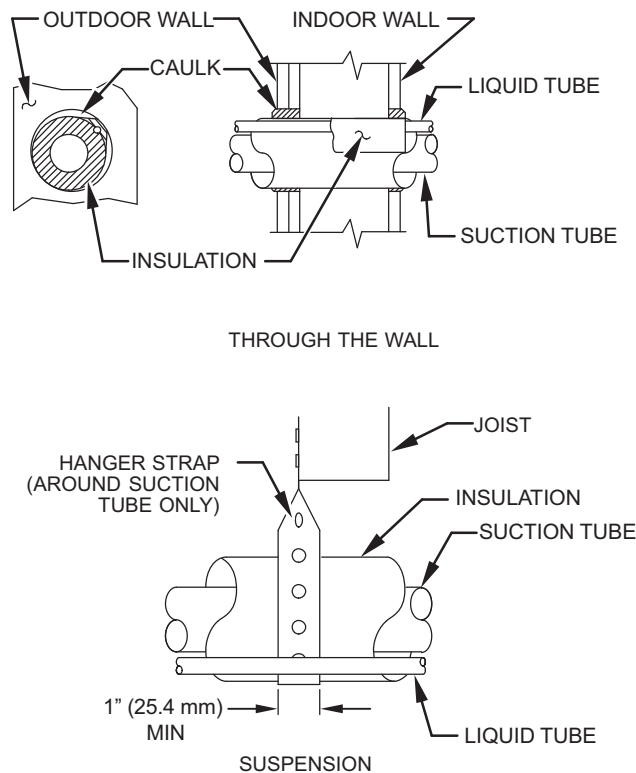

Fig. 1 – Connecting Tube Installation
5. When passing refrigerant tubes through the wall, seal opening with RTV or other pliable silicon-based caulk (Fig. 1).
7. Do not suspend refrigerant tubing from joists and studs with a rigid wire or strap which comes in direct contact with tubing (Fig. 1).
9. When necessary, use hanger straps which are 1 in. (25.4 mm) wide and conform to shape of tubing insulation (Fig. 1).